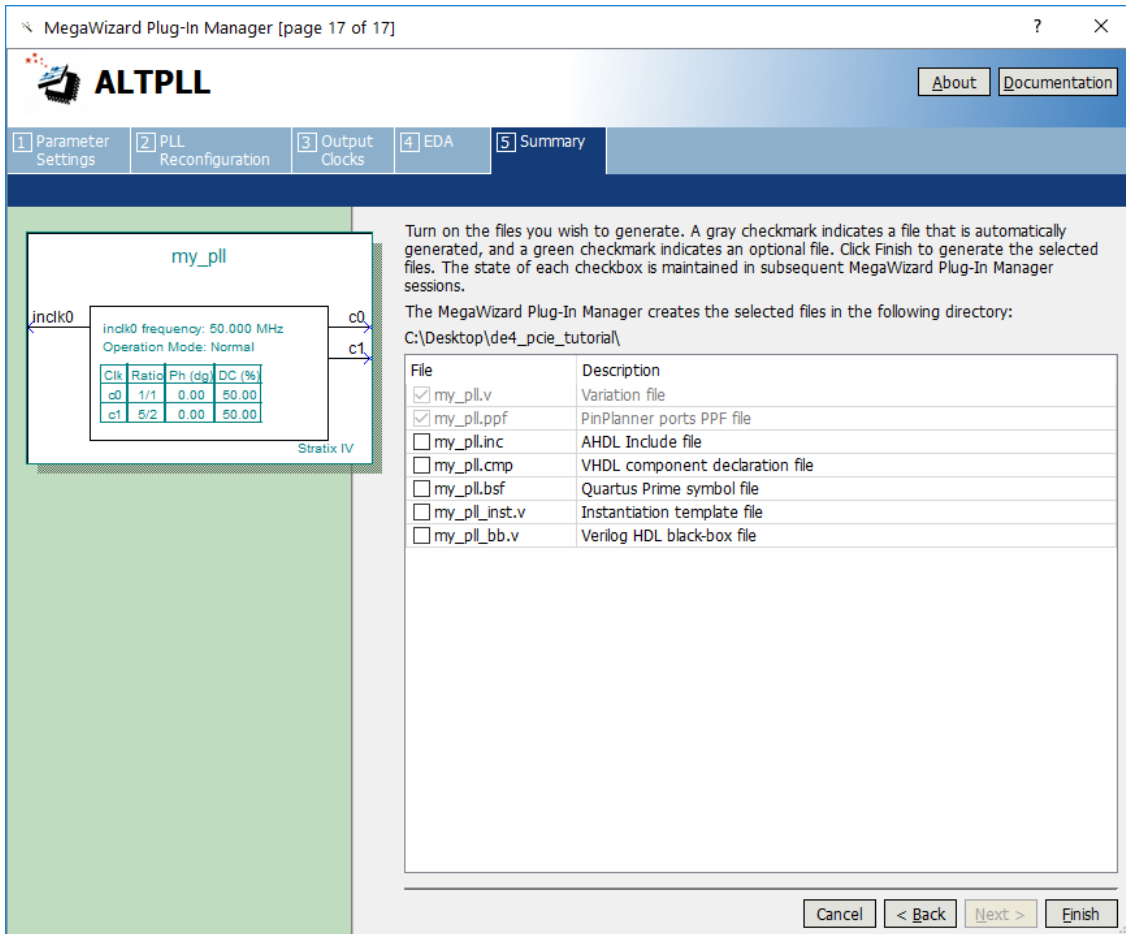

Figure 17. Settings for Summary tab.
9. Under the **Summary** tab, uncheck **my_pll_bb.v** as shown in Figure 17, and then click **Finish** to generate the file.